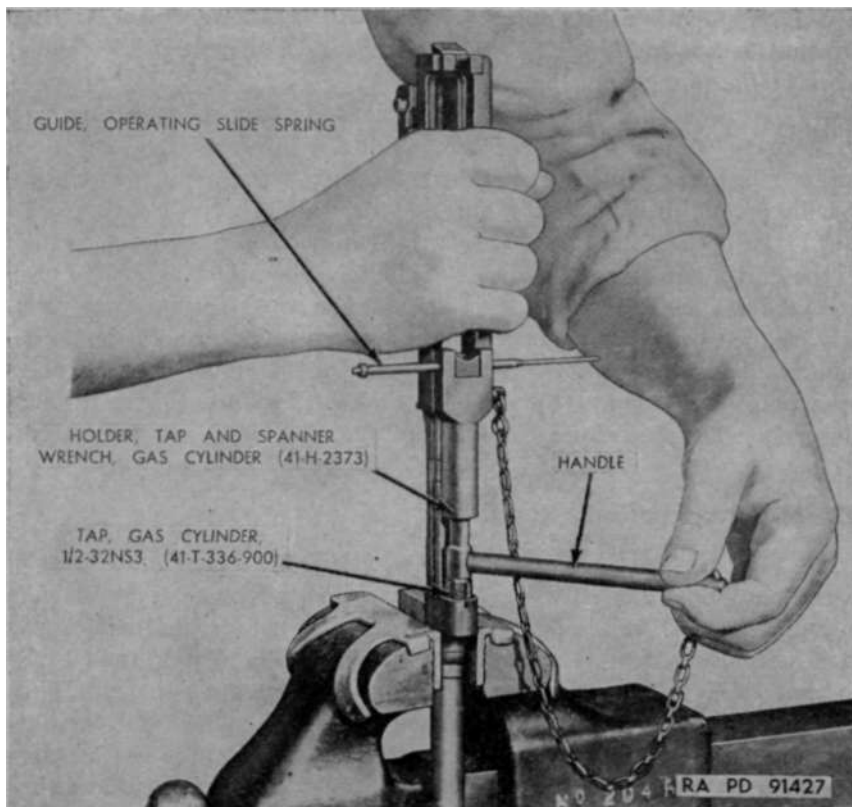

Figure 51. Chasing gas cylinder thread.
(2) *Chasing gas cylinder threads*. Chase threads of the gas cylinder, using gas cylinder tap, 1T2-32NS3 (41-T-336-900). (See fig. 51.) Dip tap in a suitable cutting oil and start tap carefully in gas cylinder. Cut threads a little at a time, using a forward and backward movement. Exercise care to stop tap as soon as it touches bottom to prevent damaging tap or cylinder. Remove tap and thoroughly clean chamber.
b. CARBON AND RUST. (1) *Carbon*. Because of the rearward position of the gas port and high gas pressure encountered there, excessive carbonization of cylinder and piston is unlikely. However, these parts